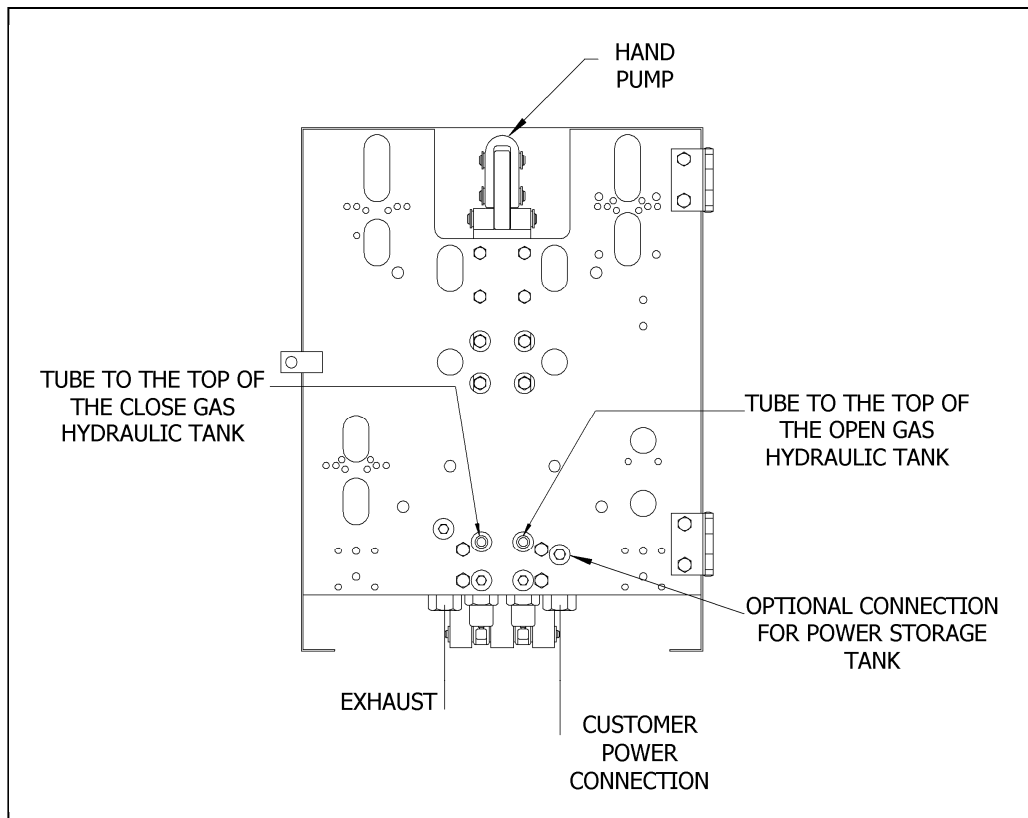

Figure 5: View of the Control from the Back
- Run tubing from the CLOSE cylinder port of the poppet block control valve to the port in the diffuser assembly on top of the closing gas hydraulic tank. (See Figure 5)
NOTE: When facing the back of the control box the CLOSE cylinder port is on the left and the OPEN is on the right. (See Figure 5)
11. If an optional power storage tank is in use, find the optional connection for the power storage tank to the right of the OPEN cylinder port of the poppet block control valve, when facing the back of the control. (See Figure 5) Run tubing from this port to the top power storage as originally plumbed.